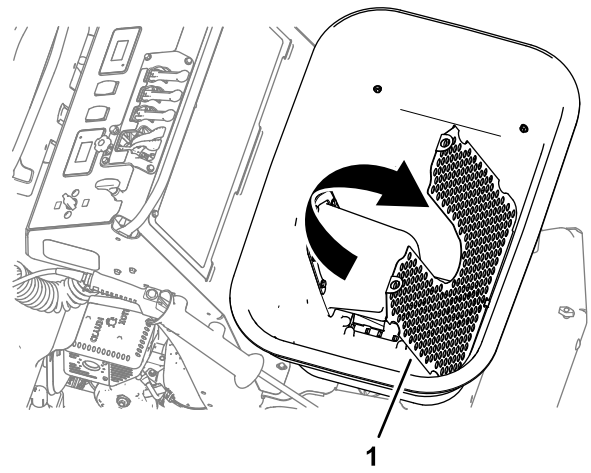

Figure 58
5. Tilt the screen at the bottom of the hopper forward to clean the bottom hopper components (Figure 58).